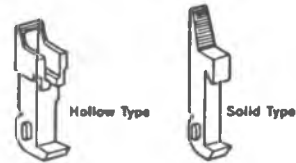

Figure 4
**Install or Connect (Figures 4, 5, 6, 7 and 8)**